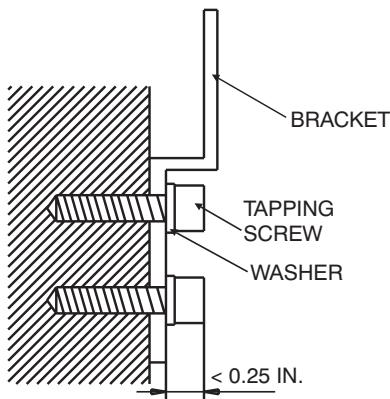

Fig. 11 —Mounting Brackets to Wall
1. Anchor the brackets at the specified location on the wall using the mounting screws. See Fig. 11.